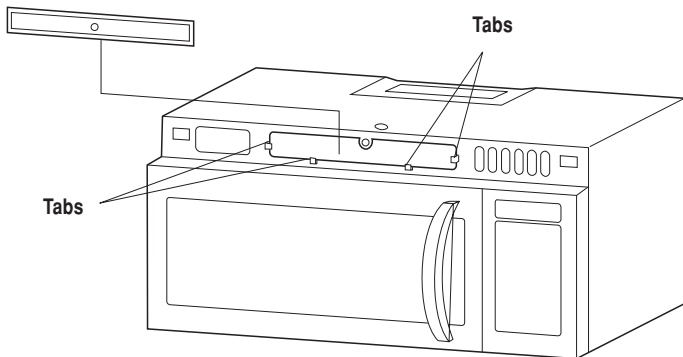

Figure 6
3. Charcoal Filter, included with the unit, is required for recirculating exhaust. Attach the Charcoal Filter to the upper side of the oven by sliding into the tabs. See Figure 6. The Charcoal Filter should be replaced every 6 to 12 months, depending on use.